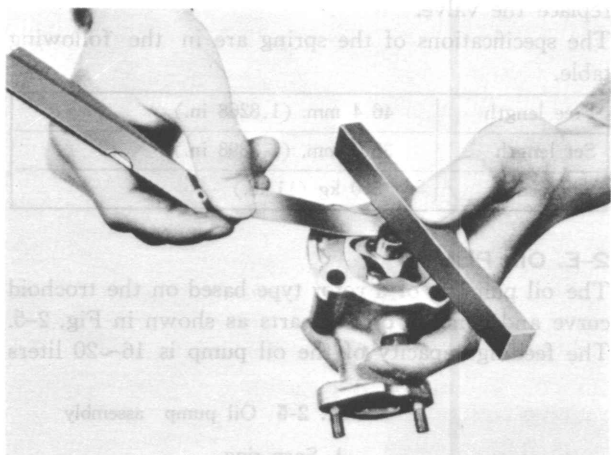

Fig. 2-7 Checking end float of rotors
3. Inspect the end float of the rotor with the feeler gauge as shown in Fig. 2-7. If the end float is too large, make corrections by scraping the pump body. The standard value of the end float is 0.1~0.2 mm. (0.004~0.008 in.).